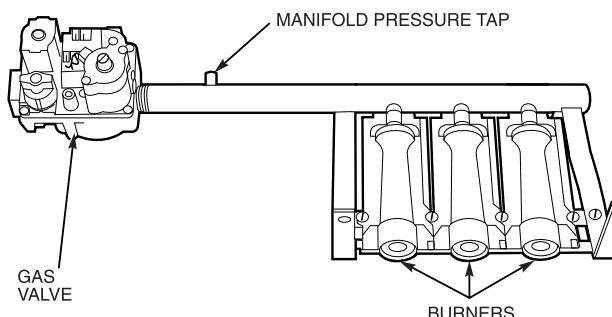

Fig. 53 — Burner Tray Details
10. Slide the burner tray out of the unit (see Fig. 53).
2. Remove manifold pressure tap plug from manifold and connect pressure gage or manometer. (See Fig. 53.)